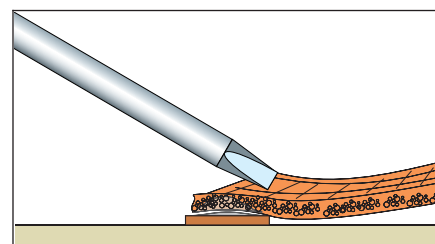

Figure 2 Place Braid & Iron on Land
6. Place prefluxed braid on the solder to be removed. Place iron tip on the braid. Ensure the braid contacts only the solder and the tip contacts only the braid to prevent damage. (See Figure 2.)